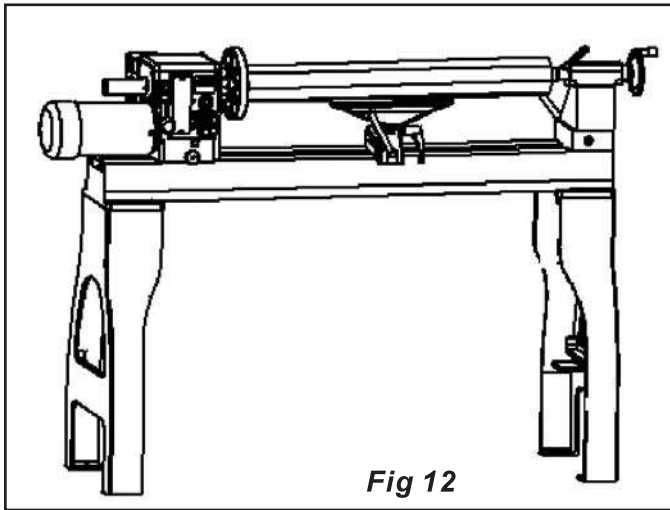

Fig 12
6. Rotate workpiece by hand to check for proper clearance from tool rest. Note: You may want to trim off the corners of a square workpiece to make turning a little easier, see Figure 12.